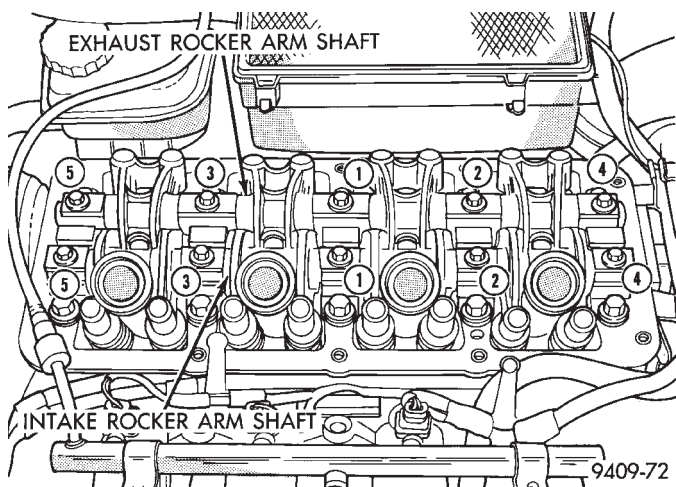

Fig. 31 Rocker Arm Shaft Tightening Sequence
(3) Tighten bolts to 23 N·m (200 in. lbs.) in sequence shown in (Fig. 31).